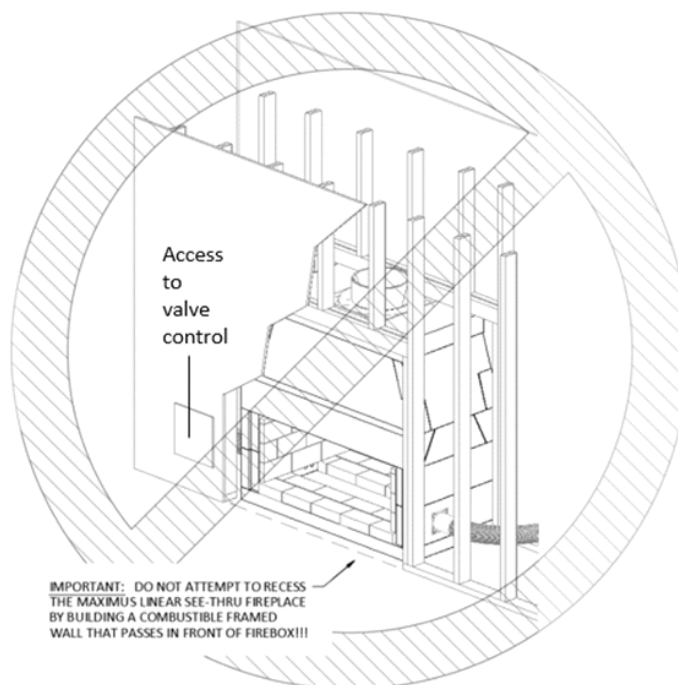

FIGURE 35
**IMPORTANT!!!:** Do not build a combustible frame wall in front of the Maximus Linear Fireboxes (**Figure 35**).